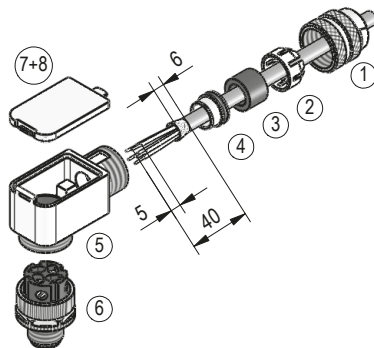
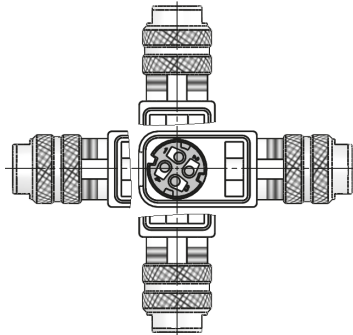

Fig. 4: Right angle mating connector M12 D coded
Fig. 5: Angled positions
- Accessory SIKO art. no. "87600" M12 D coded (plug pin 4 pole Bus) (**Fig. 4** + **Fig. 5**).
### Mounting (**Fig. 4**)
### Changing the angle position (**Fig. 5**)